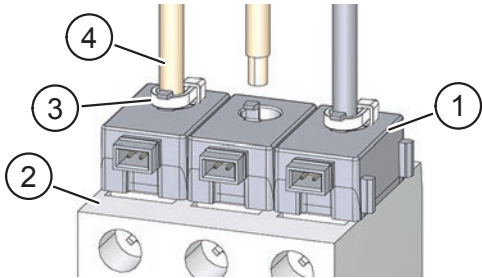

Fig. 3: Install current sensors
- ▶ Position the linked current sensors (item 1 in Fig. 3) on the top of the circuit breaker (item 2 in Fig. 3) so that the openings in the current sensors line up with the conductor openings on the circuit breaker.
- ▶ Push the conductors (item 4 in Fig. 3) through the openings in the current sensors and fix the conductors to the terminals on the circuit breaker.
- ▶ Fix the two outer conductors to the tongues on the current sensors using cable ties (item 3 in Fig. 3).